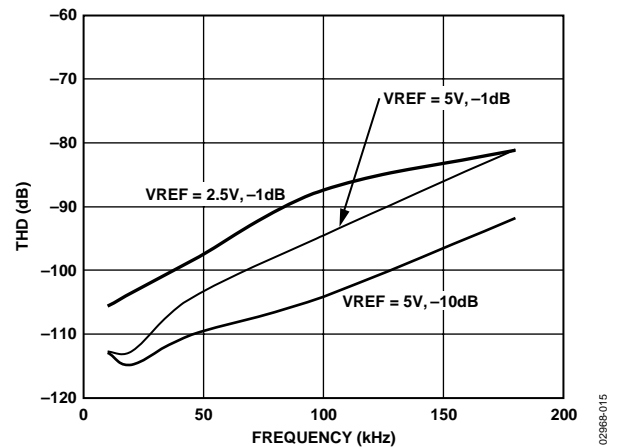

Figure 16. THD vs. Frequency
- For ac applications, the driver should have a THD performance commensurate with the AD7685. Figure 16 shows the AD7685's THD vs. frequency.